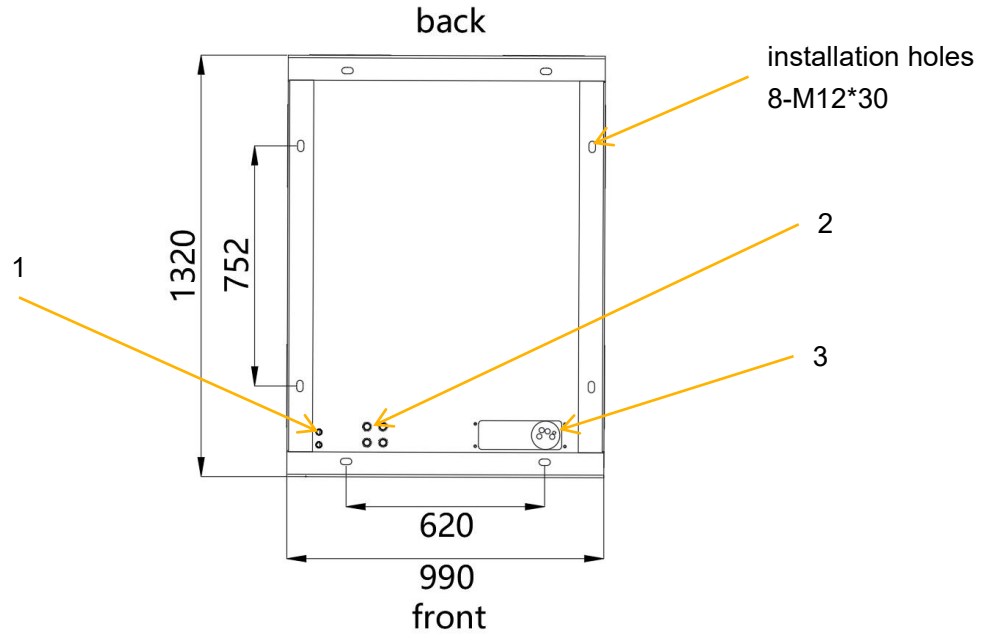

Figure 4.1 Foundation
- FFR/FCR、DEBUG、SCADA Recommend using Cat 6A Ethernet cables for external communication, The cable enters from the bottom of the cabinet, details refer to figure 4.1